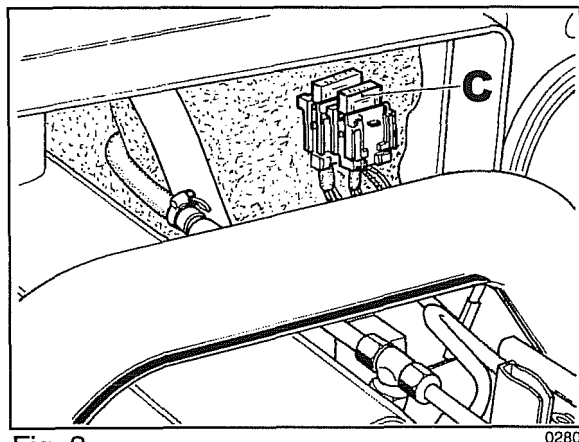

Fig. 3
- 1 Check if fuse **C** fig. 3 protecting the front PTO power circuit has blown.